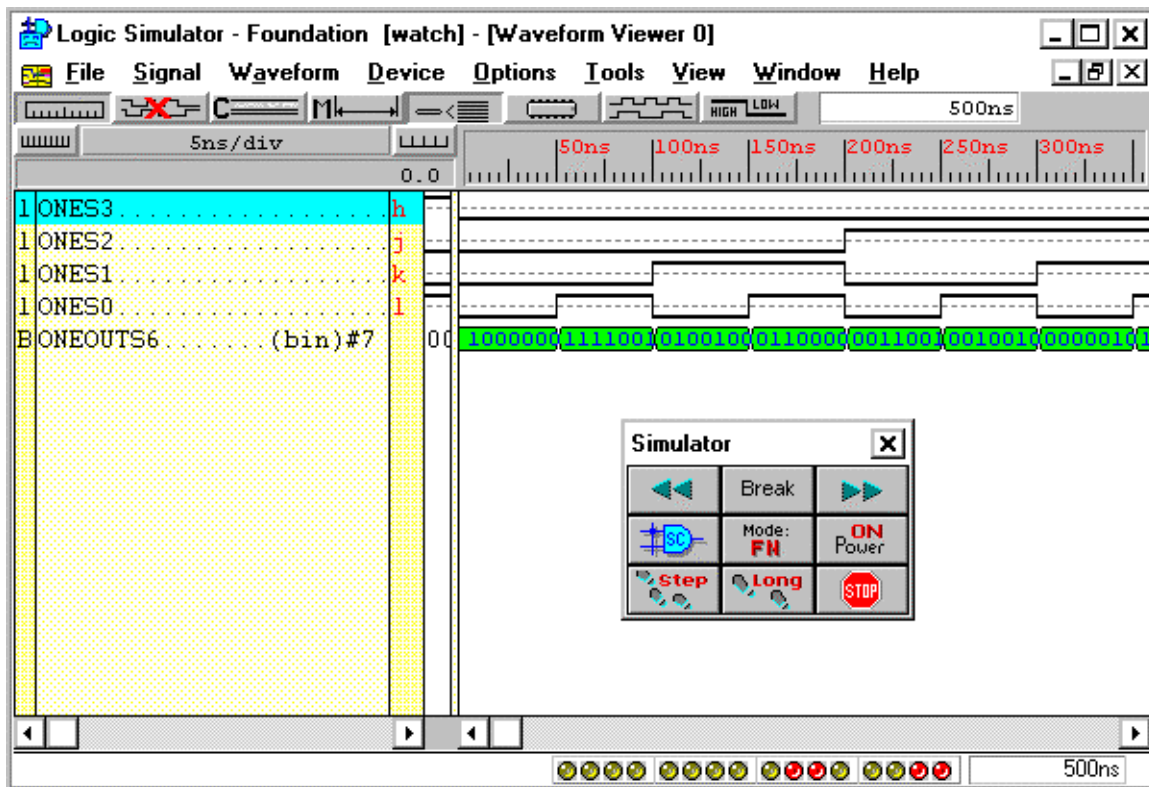

Figure 8. Verifying the HEXTOLED macrofunction.
- 2) Once the simulator has started, reset the Waveform Viewer if necessary. After the buses are loaded, flatten the input bus **ONES[3:0]** and assign each bit to a key on the keyboard. To better view the outputs, display the outputs in a binary format by selecting **ONEOUTS[6:0]** and using the menu command: *Signal>Bus>Display Binary* (see Figure 8).